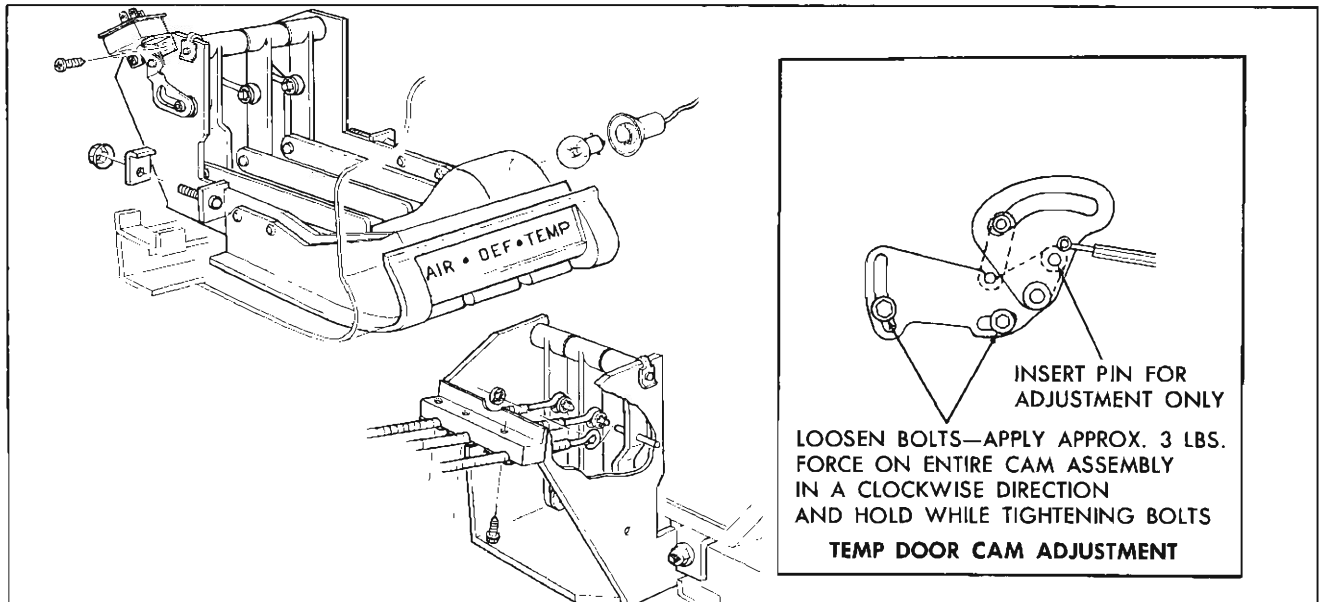

Fig. 62 Control Assembly Installation
The control assembly is attached to the dash reinforcement by two screws as shown in Fig. 62.
1. See Figure 62. With the cables attached to the control levers and the control knobs in the "up" position, pull on the cable sheaths (5 lbs. approximately) and attach the sheath clips to the proper brackets on the heater and defroster assembly.